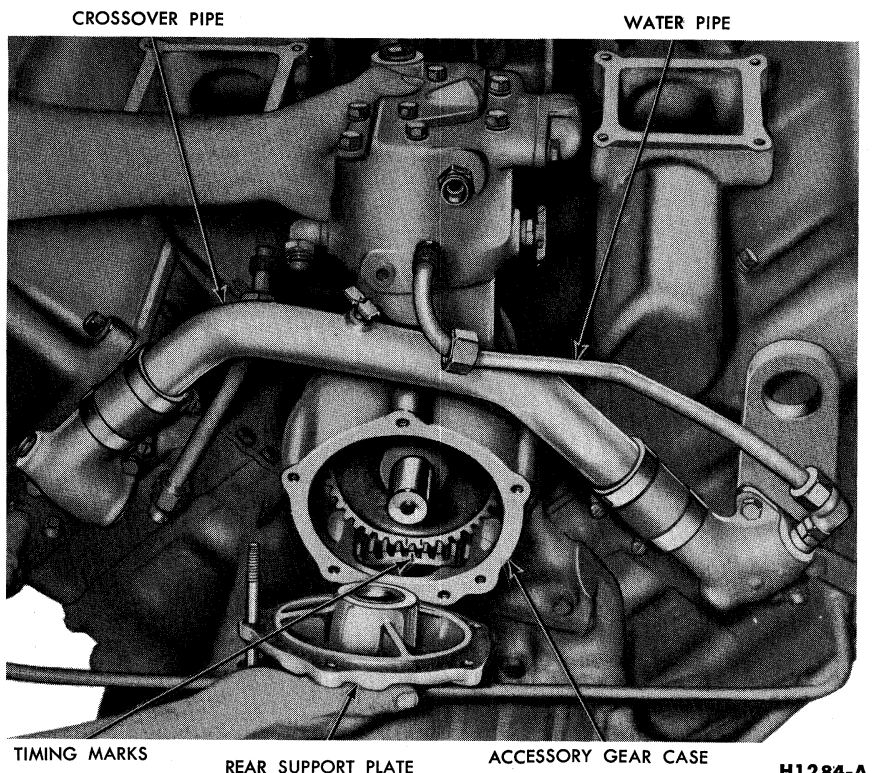

FIG. 12—Removing or Installing V-6 Air Compressor—H-Series Typical of F-, T-, and N-Series
the crossover pipe because the crossover pipe goes over the top of the accessory gear case as shown in Fig. 12.
plate and the compressor to the accessory gear case. Remove the rear support plate from the rear side of the gear case (Fig. 12), and remove the compressor from the front side of the gear case.
2. Position the air compressor with a new gasket to the front side of the gear case so that the timing marks on the air compressor drive gear are aligned with the marks on the camshaft gear (Fig. 12). Be sure that the gears mesh properly.